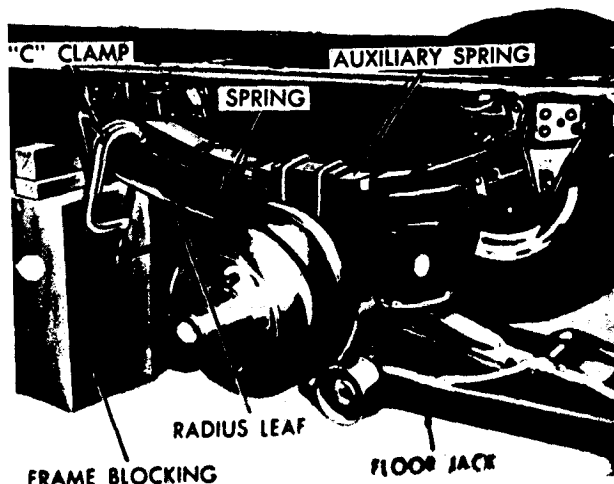

Figure 4—Using a C-Clamp At Radius Leaf
4. Install a C-clamp (figure 4) on the radius leaf to relieve the load on the radius leaf eye bolt.
4. Lower the frame until the hangers touch the cam surface of the spring. Compress the radius leaf with a C-clamp (figure 4) until the radius leaf eye and the hanger holes are in alignment.
2. Install a C-clamp on the radius leaf (figure 4) to relieve load on radius leaf eye bolt.
2. Lower frame and install a C-clamp on the radius leaf (figure 4) and tighten until radius leaf and spring bracket align. Install eye bolt and torque to "Specifications" listed at the end of this section and remove C-clamp.